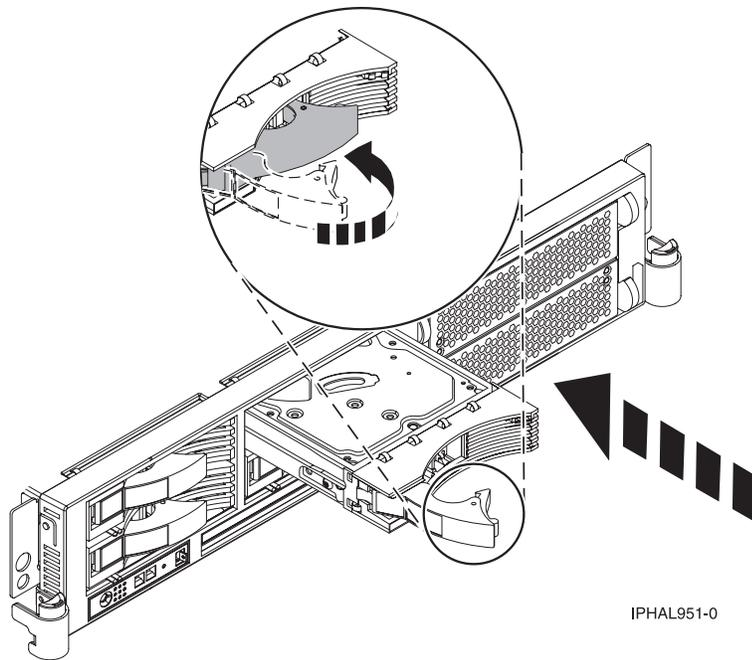
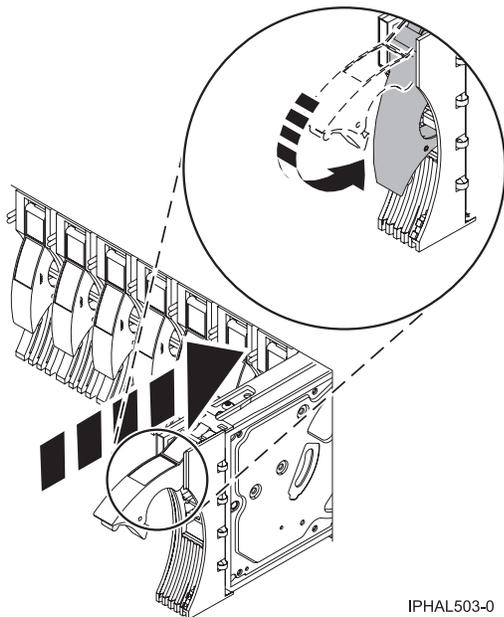

Figure 49. Installing a disk drive in a model 51x or 710
Figure 50. Installing a disk drive in a model 285, 52x, 55x, 9116-561, 570, 720, or 7311-D20
8. Push the disk drive handle in until it locks, as shown in Figure 49 on page 49 or Figure 50 on page 49.